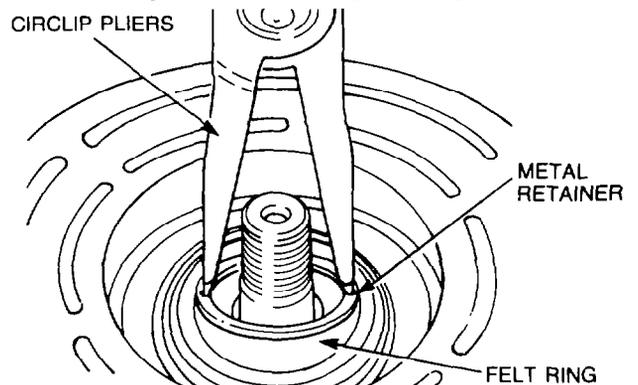

Figure 24 — Felt Ring Retainer — Removal
- h. Using suitable circlip pliers, remove the felt ring metal retainer and lift the felt ring from the housing (see Fig. 24).